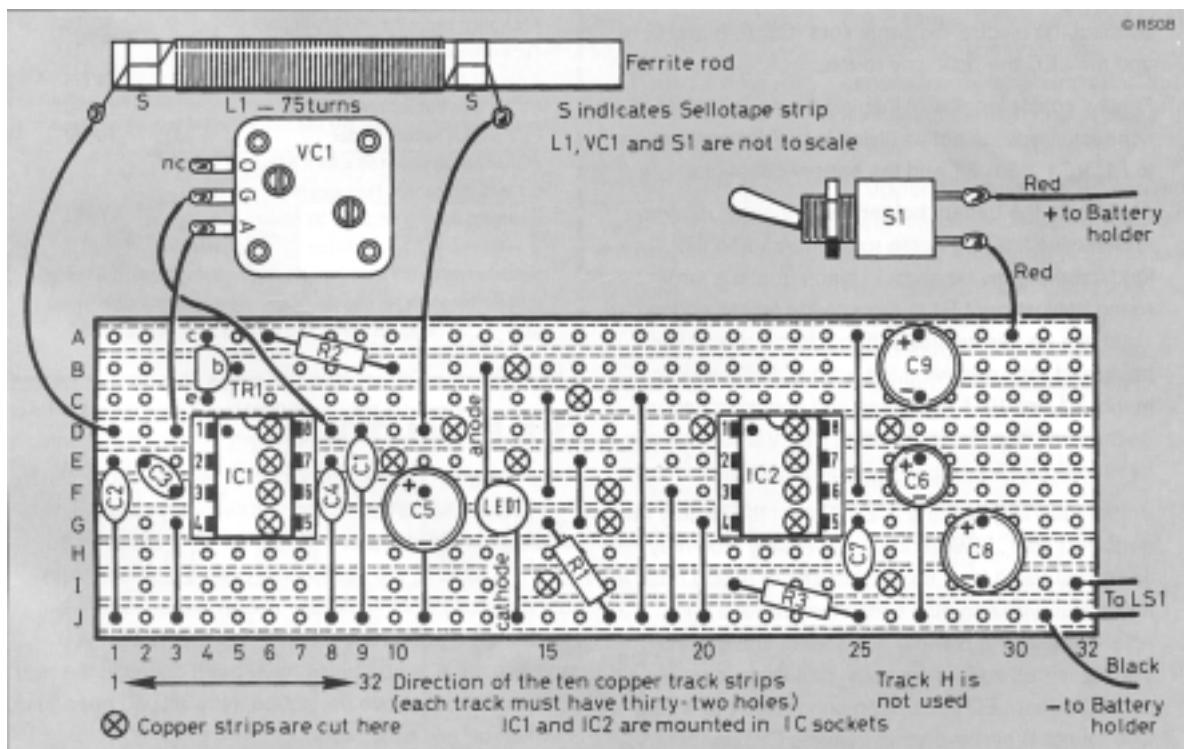

Figure 2 Veroboard layout for the Portable Radio. Make sure that all the wire links are included
2. Most of the components are mounted on a piece of Veroboard (the type with parallel copper strips on one side). The piece used on the prototype measured 32 holes by 10 strips, as Figure 2 shows. Before you start fitting components, cut the copper strips as shown. It is easier to do it now than when the board is littered with components! The strips may be cut with a 3 mm ($\frac{1}{8}$ inch) twist drill rotated between thumb and forefinger. Resist the temptation to use a hand drill – the idea is just to cut the copper, **not** to drill right through the board!
3. Solder the IC sockets and the other components on the board as shown in Figure 2. Make sure that the IC sockets are fitted with their notches towards the *top* of the board, as viewed in Figure 2. Do not insert the chips yet. Always keep the wires left over from cropping resistors and capacitors, they will come in handy at times like this: make the wire links that are clearly shown in Figure 2. Connect the electrolytic capacitors (C5, C6, C8 and C9), the transistor and the LED the correct way round; then check it again when you have done it!